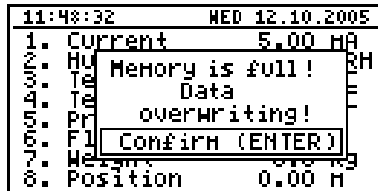

Fig. 7.16. Warning in “cyclic” recording mode
- "cyclic"** - after filling all the available memory with recorded measurement results, the measurement results recorded next will be written from the starting address in the memory, overwriting previously recorded data. During the first overwriting operation a warning message (Fig. 7.16) will be displayed; this message must be confirmed with the [ENTER] key. This warning shall be repeated when the